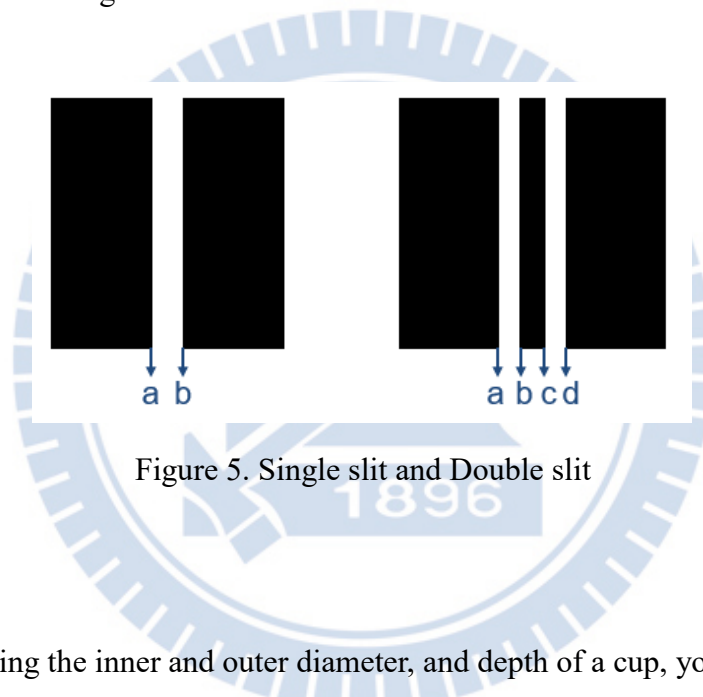

Figure 5. Single slit and Double slit
3. For example with single-slit, the definitions of a and b are shown in the Fig.5. Adjust horizontal knob on C to make the cross in the eyepiece overlap one end of the item under measurement. Put down the recorded position x_1 . Repeat the procedure and record the position x_2 on the other end. Then the length of the object will be